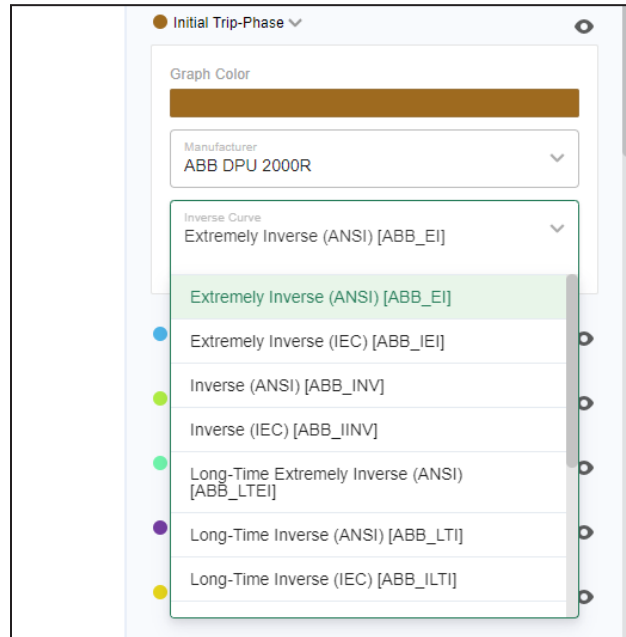

Figure 16. The emulated device curve selection drop-down menu.
STEP 2. After the emulated device has been selected, select the TCC curve. See Figure 16.